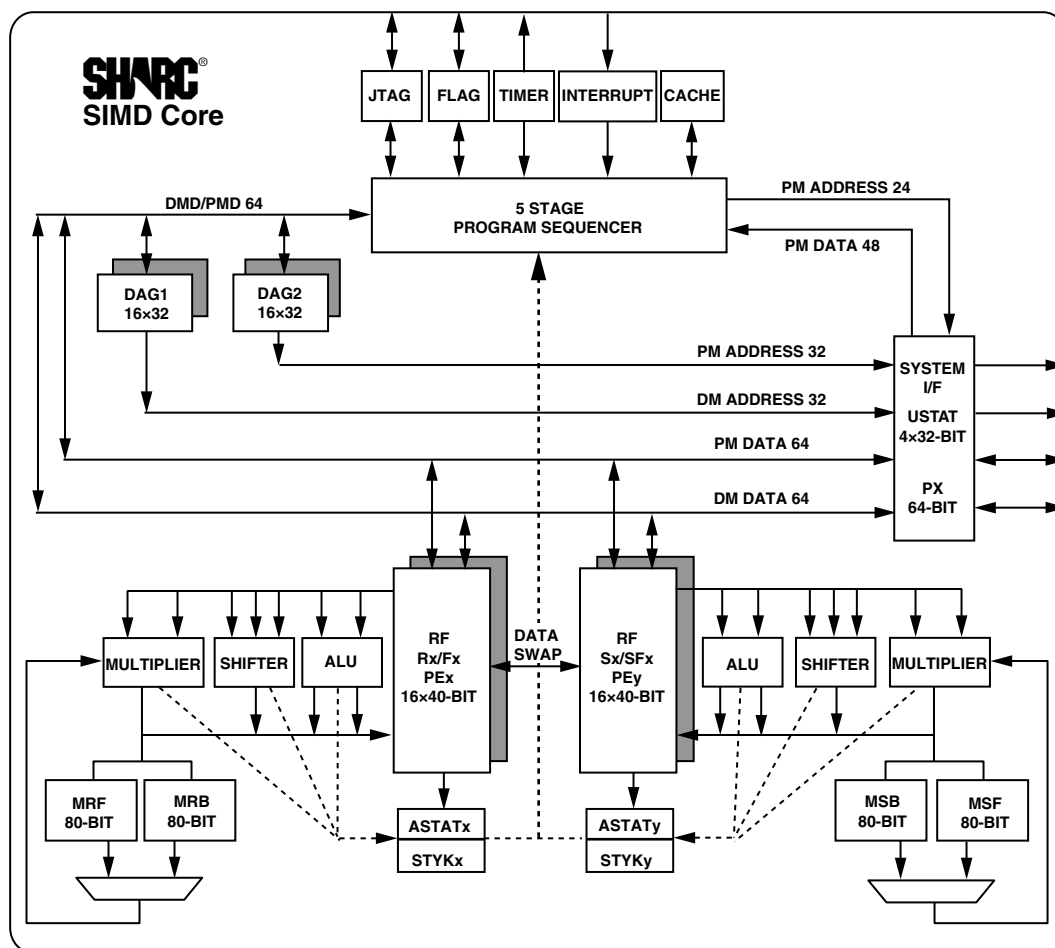

Figure 2. SHARC Core Block Diagram
The processors are code compatible at the assembly level with the ADSP-2146x, ADSP-2137x, ADSP-2136x, ADSP-2126x, ADSP-21160, and ADSP-21161, and with the first generation ADSP-2106x SHARC processors. The ADSP-2147x share architectural features with the ADSP-2126x, ADSP-2136x, ADSP-2137x, ADSP-2146x, and ADSP-2116x SIMD SHARC processors, as shown in Figure 2 and detailed in the following sections.
The processors feature an enhanced Harvard architecture in which the data memory (DM) bus transfers data and the program memory (PM) bus transfers both instructions and data (see Figure 2). With its separate program and data memory